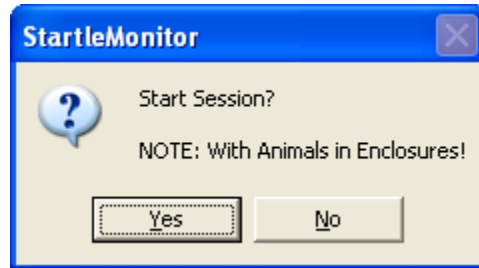

Figure 75 Start Session Window
7. The following window (Figure 75) appears: